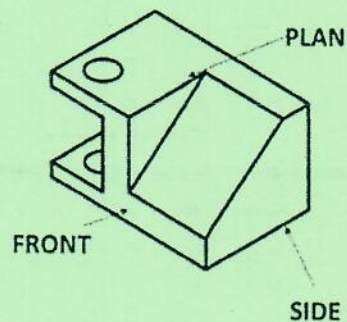

Figure 1 3 dimensional view of an anchor block
- a) Figure 1 shows a 3D anchor block for a power tool.